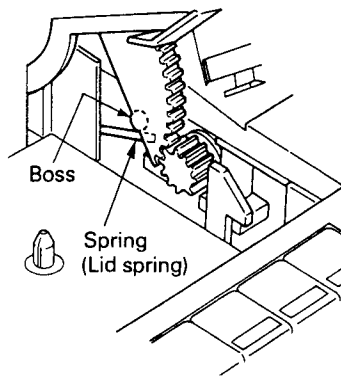

Fig. 3
- (1) Securely hook the boss of the cassette lid at the spring as shown in Fig. 3.